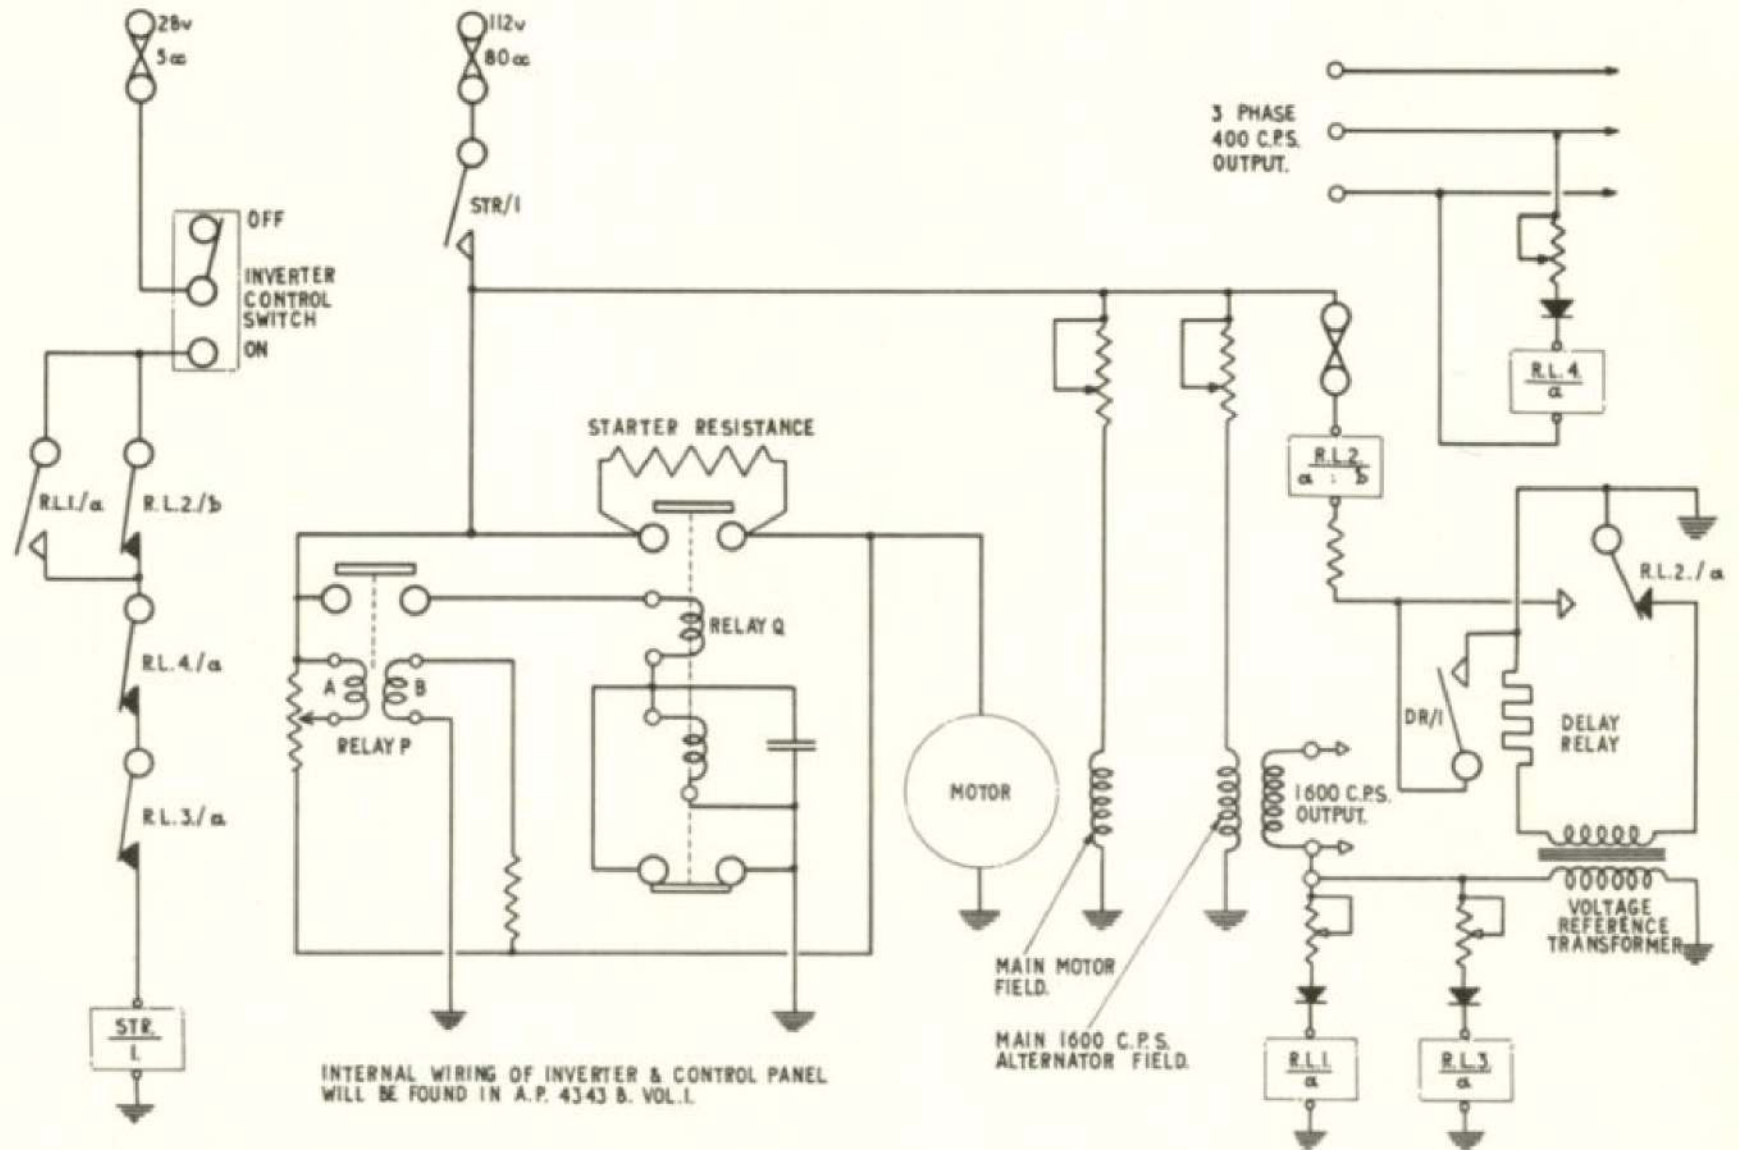

Fig.4 Type 350 inverter starter control
14. The starting system requires the link on each inverter to be in the normally closed position; the significance of this is enlarged upon in para.19. To satisfy the normal requirements for limiting starting current, starting relays and associated resistors are embodied in the inverter. Other relays protecting the system from variation of the inverter output in voltage or frequency are contained in the associated control panel, Type 16. The control circuit operates on 28 volts d.c. The following paragraphs, which outline the operation of the system, should be read in conjunction with fig.4 and 5.
19. The setting of the protective change-over link on the inverters in the normally closed position, introduces into the starting control circuit a 1,600 c/s voltage reference relay, a 1,600 c/s over-volt relay, and a 400 c/s over-volt relay. Referring to fig.4, these are numbered RL1, RL3 and RL4 respectively. Relay RL2 is a thermal delay relay which allows the normally open contacts RL1/a to be short-circuited for a period sufficient to complete the starting cycle.